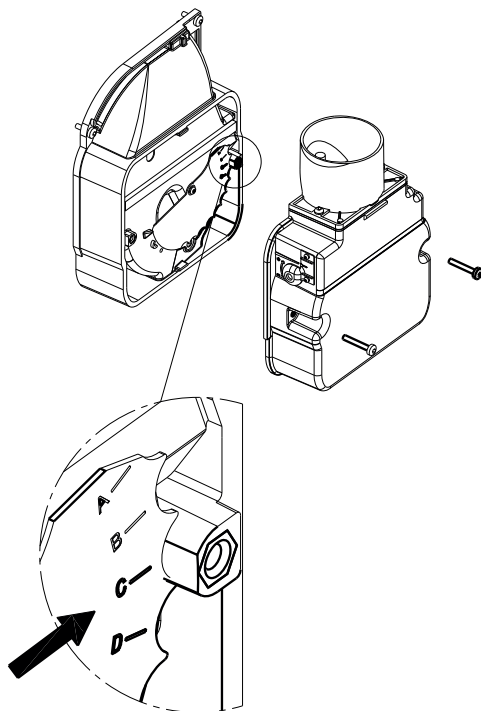

Figure 10-8: Air adjuster disc
It is essential, for correct operation of the burner, that this internal air adjuster disc is correctly set. Refer to Figure 10-8.
4. The air adjuster disc is mounted on the fan housing. Refer to Figure 10-8.